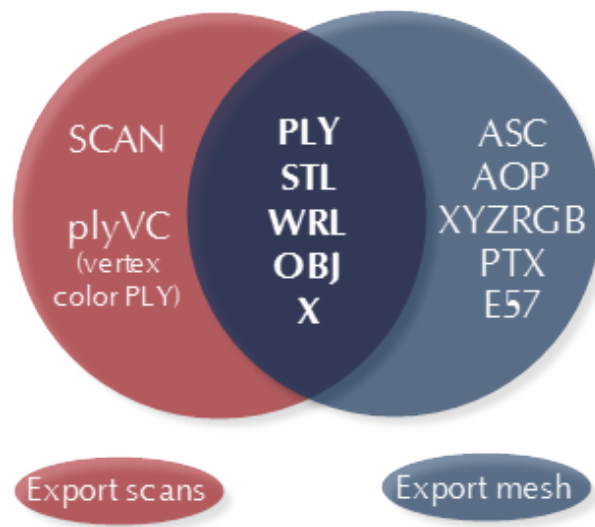

Figure 4.2: Formats available for both commands and each of them separately
4. Select *Scans export format* using drop-down list of the same name (figure 4.2).